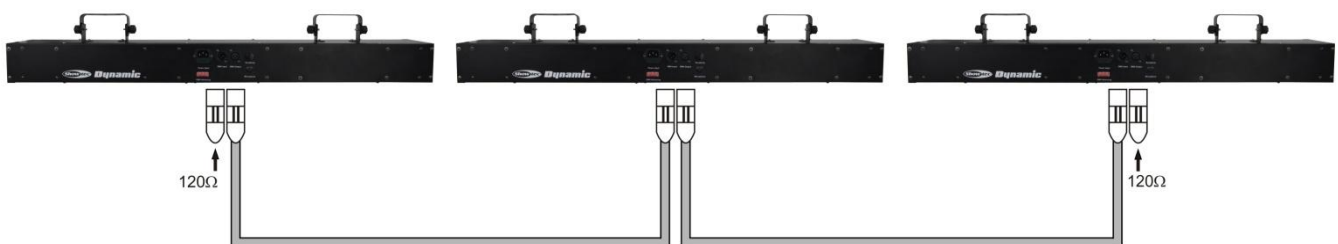

Fig. 3
3. Link the units as shown in (Fig. 3), Connect a DMX signal cable from the first unit's DMX "out" socket to the second unit's "in" socket. Repeat this process to link the second, third, and fourth units. You can use the same functions on the master device as described on page 12+13 (Built-in Programs, Auto Run or Music control). This means on the master device you can set your desired operation Mode and all slave devices will react the same as the master device.